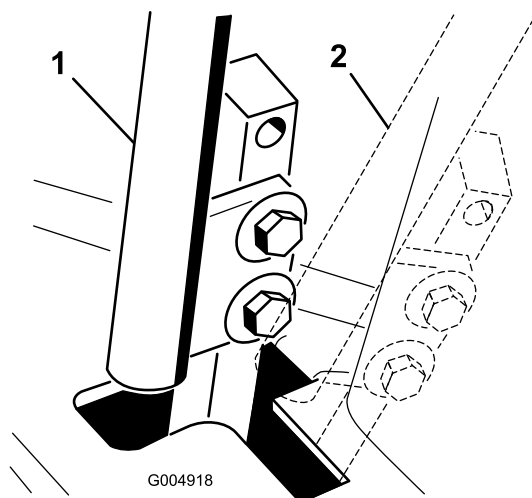

Figure 83
4. Move the control lever to the neutral position but **not locked** (Figure 83).
6. Check where the control lever is relative to notch in console (Figure 83).